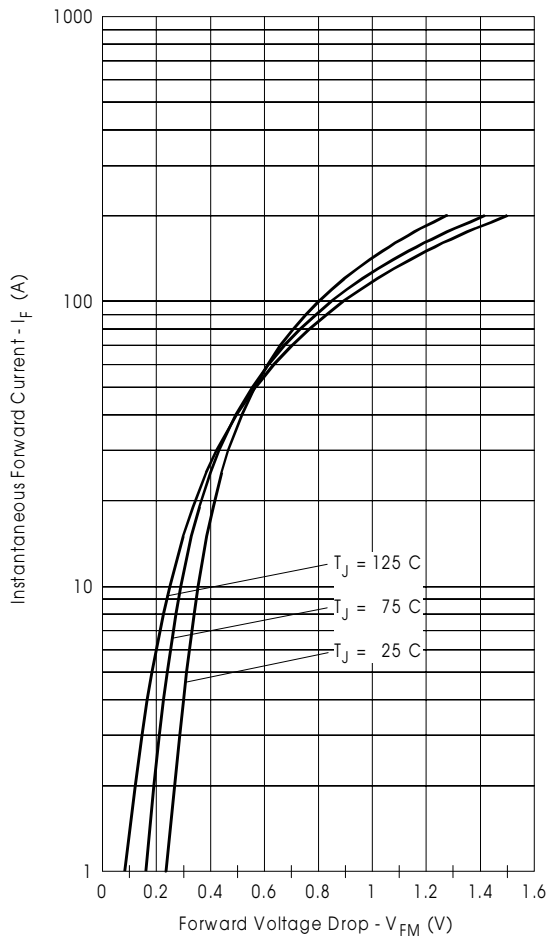

Fig. 1 - Maximum Forward Voltage Drop Characteristics
V_{FM} Forward Voltage Drop (Per Leg) * See Fig. 1 (1)	Typ. Max.